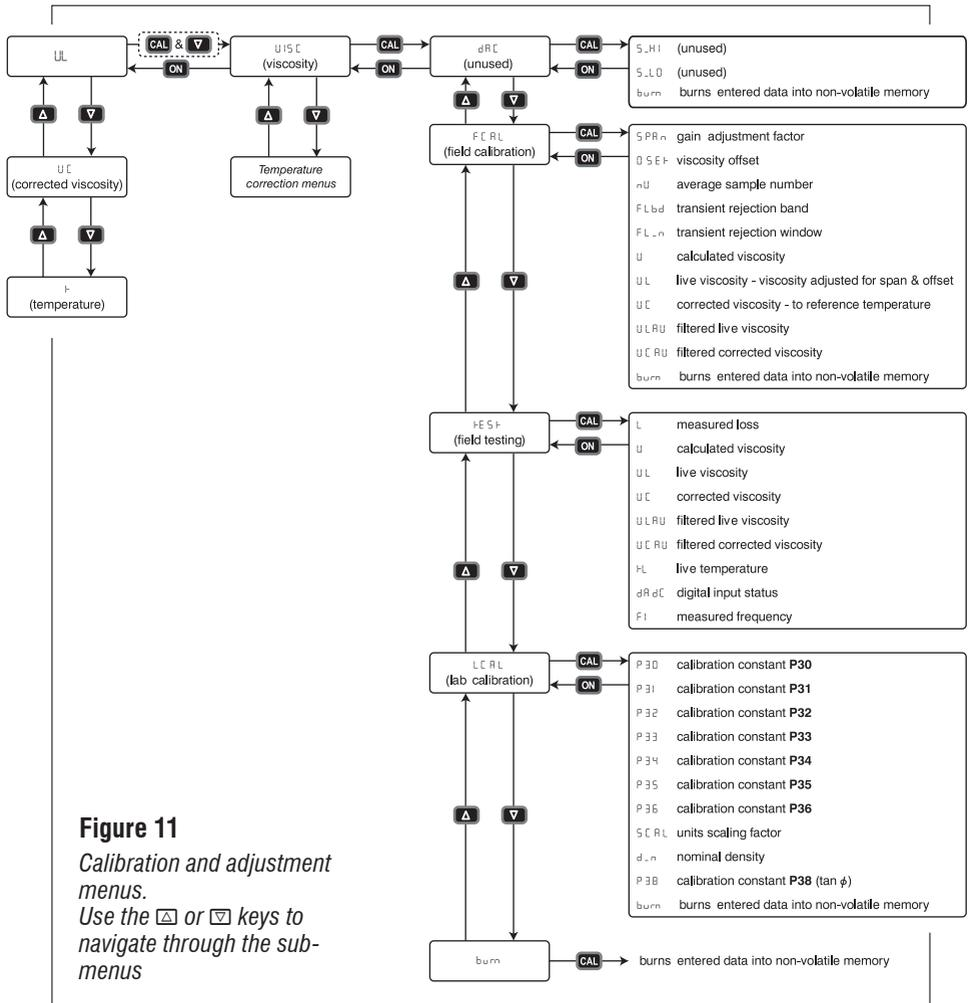

Figure 11
- Navigate through the menus to the desired parameter using the **▽** or **CAL** keys as indicated in Figure 7 (p. 16) or (for calibration and adjustment) Figure 11 (p. 21).
- Minor operational adjustments are carried out using the Calibration and adjustment menus shown in Figure 11 (p. 21).
- (5) Navigate down the submenu to μL and check that its adjusted value is zero. (It is not necessary to navigate back to the main operating mode to reach μL — see Figure 11.)
- (6) If desired, compare the adjusted value (μL) with the unadjusted value (μ) in the same submenu.
- (7) Save the change as described in Section 3.5 (p. 17) before switching off the Viscolite.
- (1) Navigate to \overline{U} in the \overline{FCAL} submenu (see Figure 11, p. 21).
- (2) Adjust the value as desired.
- (3) Navigate down the submenu to “ $\overline{U\overline{L}\overline{R}\overline{U}$ ” (filtered live viscosity).
- (4) The filtered reading can be compared with the unfiltered reading (\overline{U}) in the same submenu.
- (5) If necessary, go back and increase $\overline{U\overline{L}\overline{R}\overline{U}}$ by a further amount.
- (6) If desired, the change can be saved as described in Section 3.5 (p. 17).
- (1) Navigate to \overline{SCALE} in the \overline{LCAL} submenu (see Figure 11, p. 21). The default factory setting is 1.000.
- (2) Enter the appropriate conversion factor (see below).
- (3) If desired, save the change as described in Section 3.5 (p. 17) before switching off.
- (1) Navigate to d_n (nominal density) in the LEAL submenu (see Figure 11, p. 21).
- (2) Enter the appropriate value for the fluid density in g/cm^3 .
- (1) Navigate to d_n in the LEAL submenu (see Figure 11, p. 21).
- (2) Enter the calculated value of d^2 . Once back in normal operating mode, the main VL display will show viscosity in centistokes (*i.e.* kinematic viscosity).